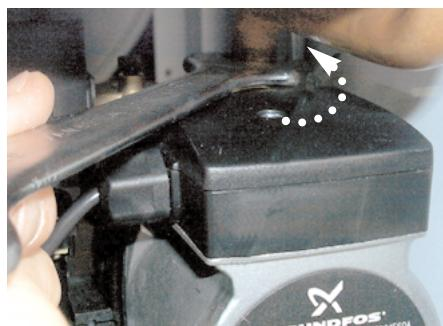

Fig. 88
4. Unscrew the pump nut (see Fig. 88);